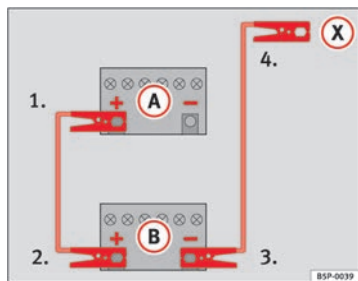

Fig. 151 How to connect the jump leads
⇒ fig. 151 **A** shows a flat battery and **B** a charged battery.
1. Connect one end of the red jump lead to the positive ⇒ fig. 151 terminal of the vehicle with the flat battery ⇒ .